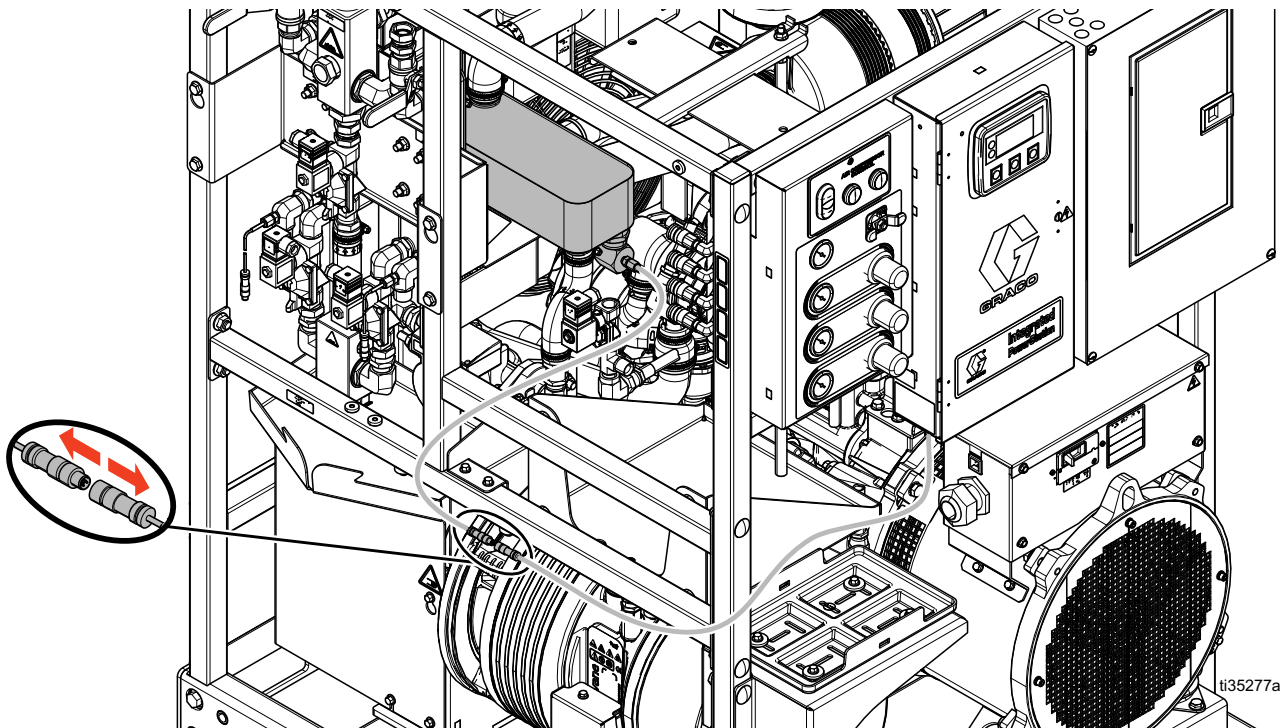

FIG. 20
3. Disconnect the RTD from the extension cable. See FIG. 20, page 28.
4. Remove the compression nut fitting (38) and the engine coolant RTD (39).